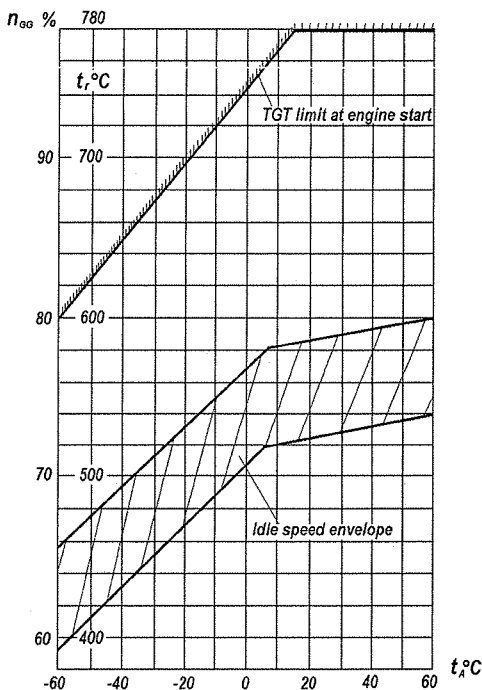

Fig.3.3. Gas Generator Idle Speed and Maximum TGT (by T-102 Thermocouples) at Engine Start versus Ambient Temperature
- (6) After the engine gains the idling speed the Flight Engineer should check its operational parameters which should remain within the following limits:
- (a) The gas generator rotor speed - in accordance with the graph of Fig. 3.3.
- (b) The turbine inlet temperature - in accordance with the graph of Fig. 3.3.
- (7) Set the LEFT - RIGHT (ЛЕВ - ПРАВ) selector switch to the position required to start the second engine proceeding in a similar way.
- (9) With the TB3-117BM engines running monitor the ИВ-500Е vibration Indication annunciators.
- (10) If in winter the engine oil temperature is minus 30-40°C before start it is necessary to perform 2 engine crankings, with 3 minutes intervals between them.
- (11) In order to ensure reliable start of the engines in winter at ambient temperatures of -5°C or below after a prolonged parking period (for 24 h or more) it is necessary to crank the engines before start.
- (12) Discontinue the engine start by depression of the START DISCONT (ПРЕКРАЩЕНИЕ ЗАПУСКА) button and closing of the fuel shutoff valve if at least one of the following events occurs:
- (b) The turbine inlet gas temperature rises above the limits indicated in the graph of Fig. 3.3.